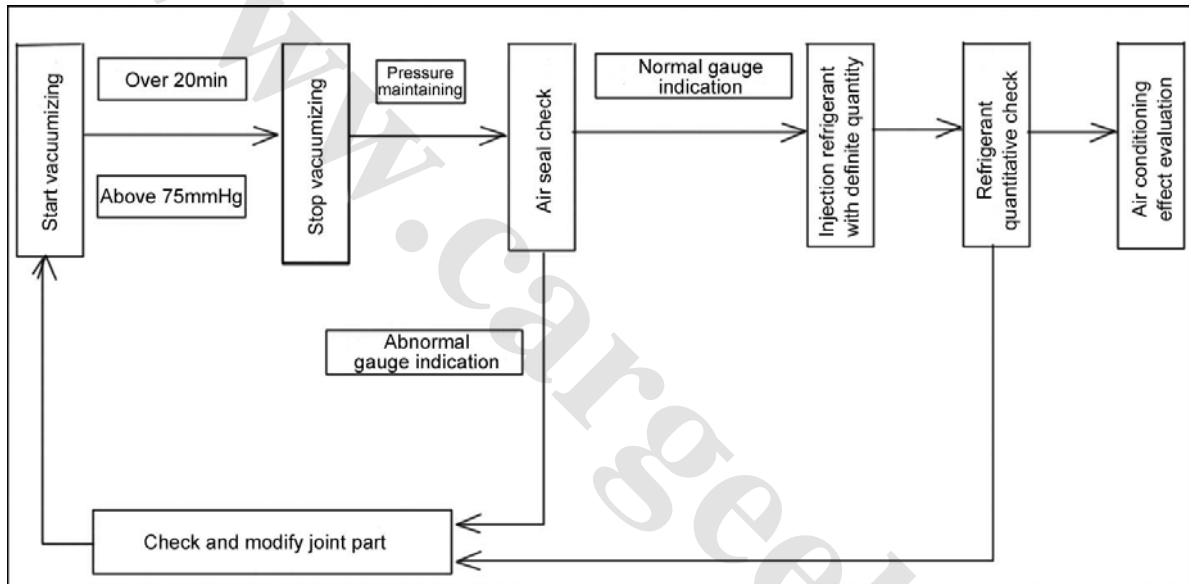

Figure 6-42
- (1) Must apply authentic R-134a cooling medium with qualified standard of component, moisture content, foreign matters and foul gas. 13.6kg canned cooling medium is recommend for service station;
- (2) Refrigerant charge must comply with the provision of complete vehicle factory, both excess and lack will reduce the refrigerating effect.
- (3) Before injecting refrigerant, completely check whether every pipe O-ring seal is in good condition and whether leakage of every part exists;
- (4) Before compressor starts working, can inject from the low pressure side and high pressure side simultaneously; after compressor starts working, can only inject from the low pressure side slowly;
- Figure 6-42.